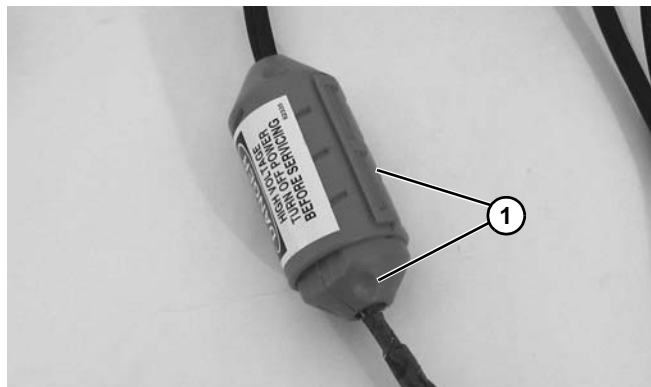

Figure 21
1. Twist covers (Figure 21, item 1) apart.